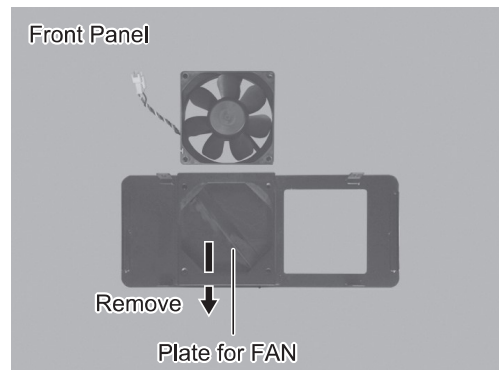

Fig. 44
- (7) Remove the FAN from the Case (Front Panel) of the CONTROLLER (Fig. 44).
- (8) Remove the Plate for FAN from the Case (Front Panel). Clean the Case (Front panel) and Plate with a lint-free cloth (Fig. 44).